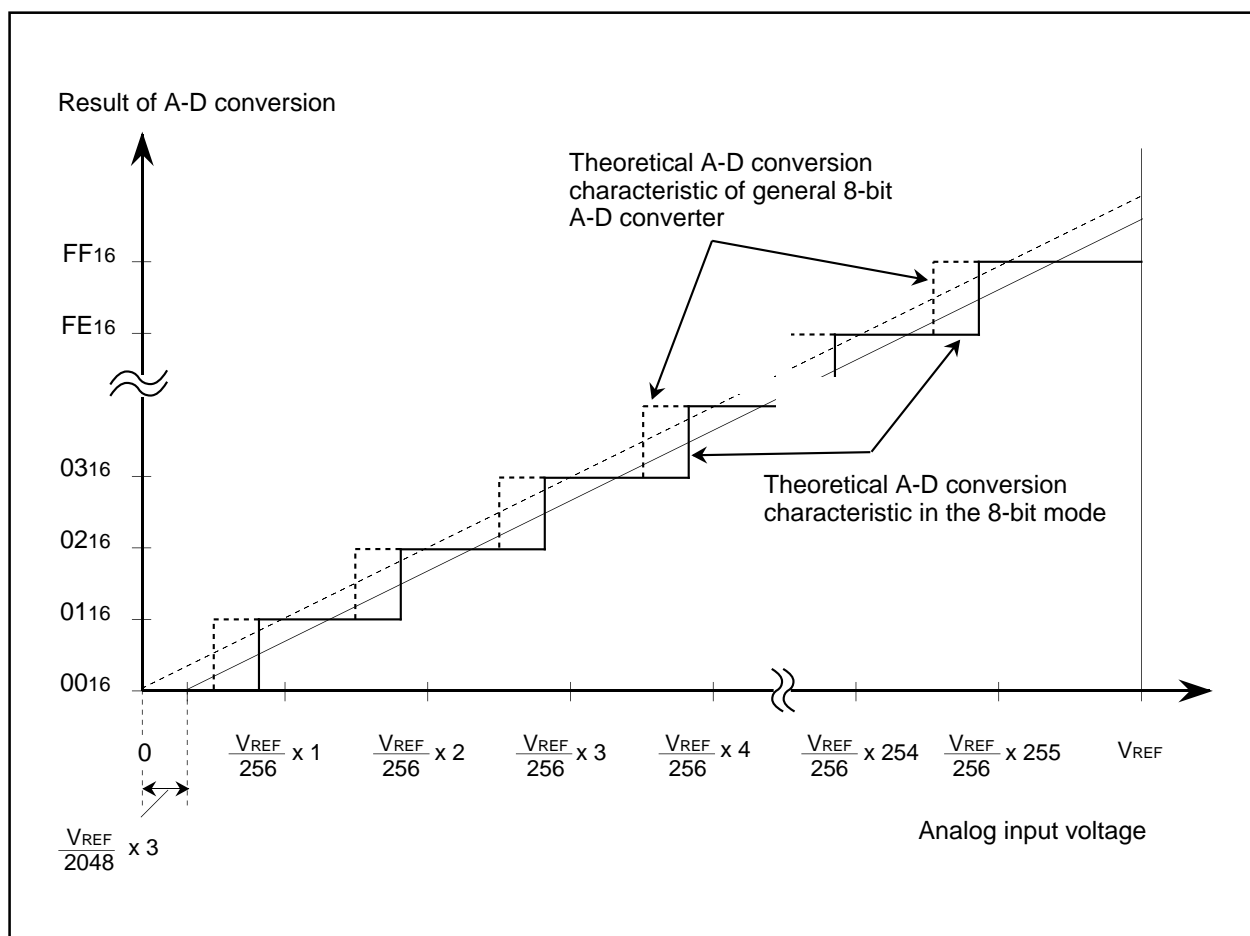

**Figure 2.7.24. The level conversion characteristics of 8-bit mode and 8-bit A-D converter**
(1) In 8-bit mode, 8 higher-order bits of the 10-bit successive comparison register becomes A-D conversion result. Hence, if compared to a result obtained by using an 8-bit A-D converter, the voltage compared is different by  $3 V_{REF}/2048$  (see what are underscored in Table 2.7.12), and differences in stepping points of output codes occur as shown in Figure 2.7.24.